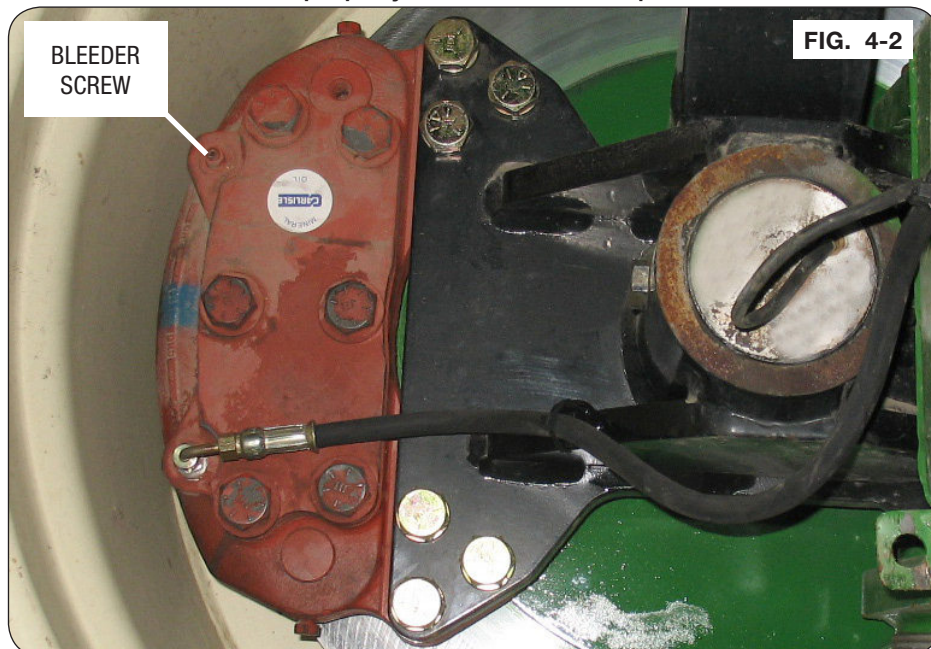

FIG. 4-2
3. Attach 1/4" hose to bleeder screw. Put hose in an approved container. Loosen the bleeder screw, at the top of the brake caliper, on caliper of the closest wheel located in the hydraulic circuit. If necessary, pump the brake pedal to extract all air from the system. Once air bubbles are no longer present, tighten the bleeder screw. (Fig. 4-2)